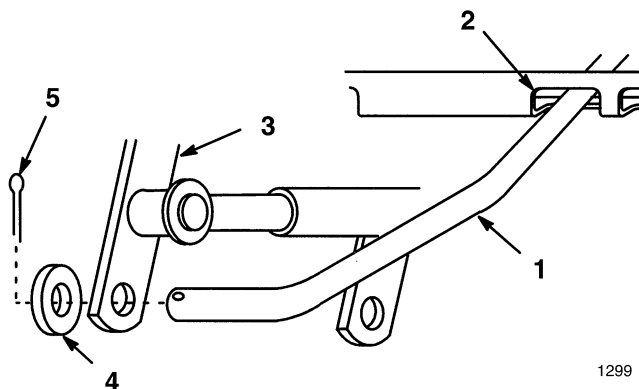

Figure 8
9. Looking under tractor frame on left side, slowly raise and lower attachment lift and slide lift rod into hole in attachment lift. Secure with washer and cotter pin. (Fig. 8).